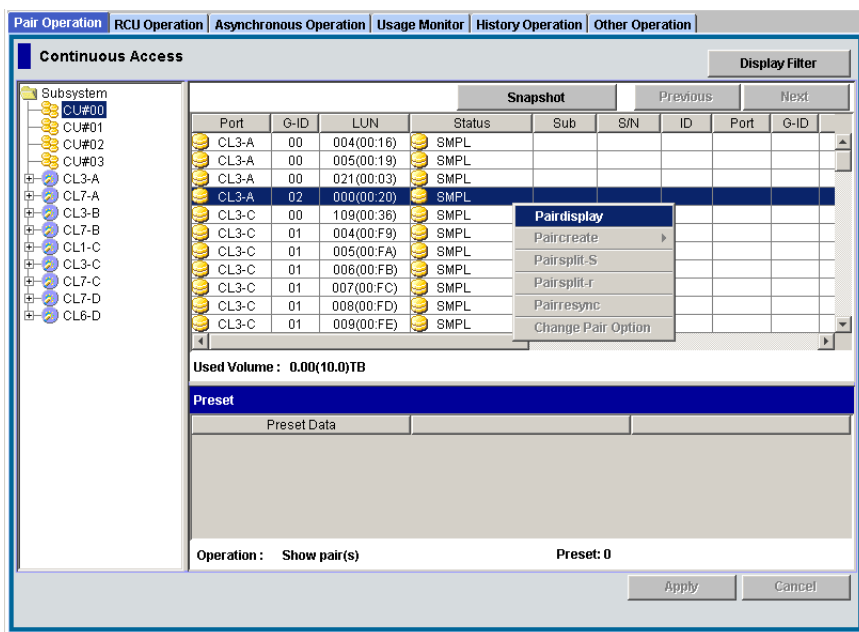

Figure 323 Performing pair settings operations
3. Right-click (Figure 323). The pop-up menu consists of: